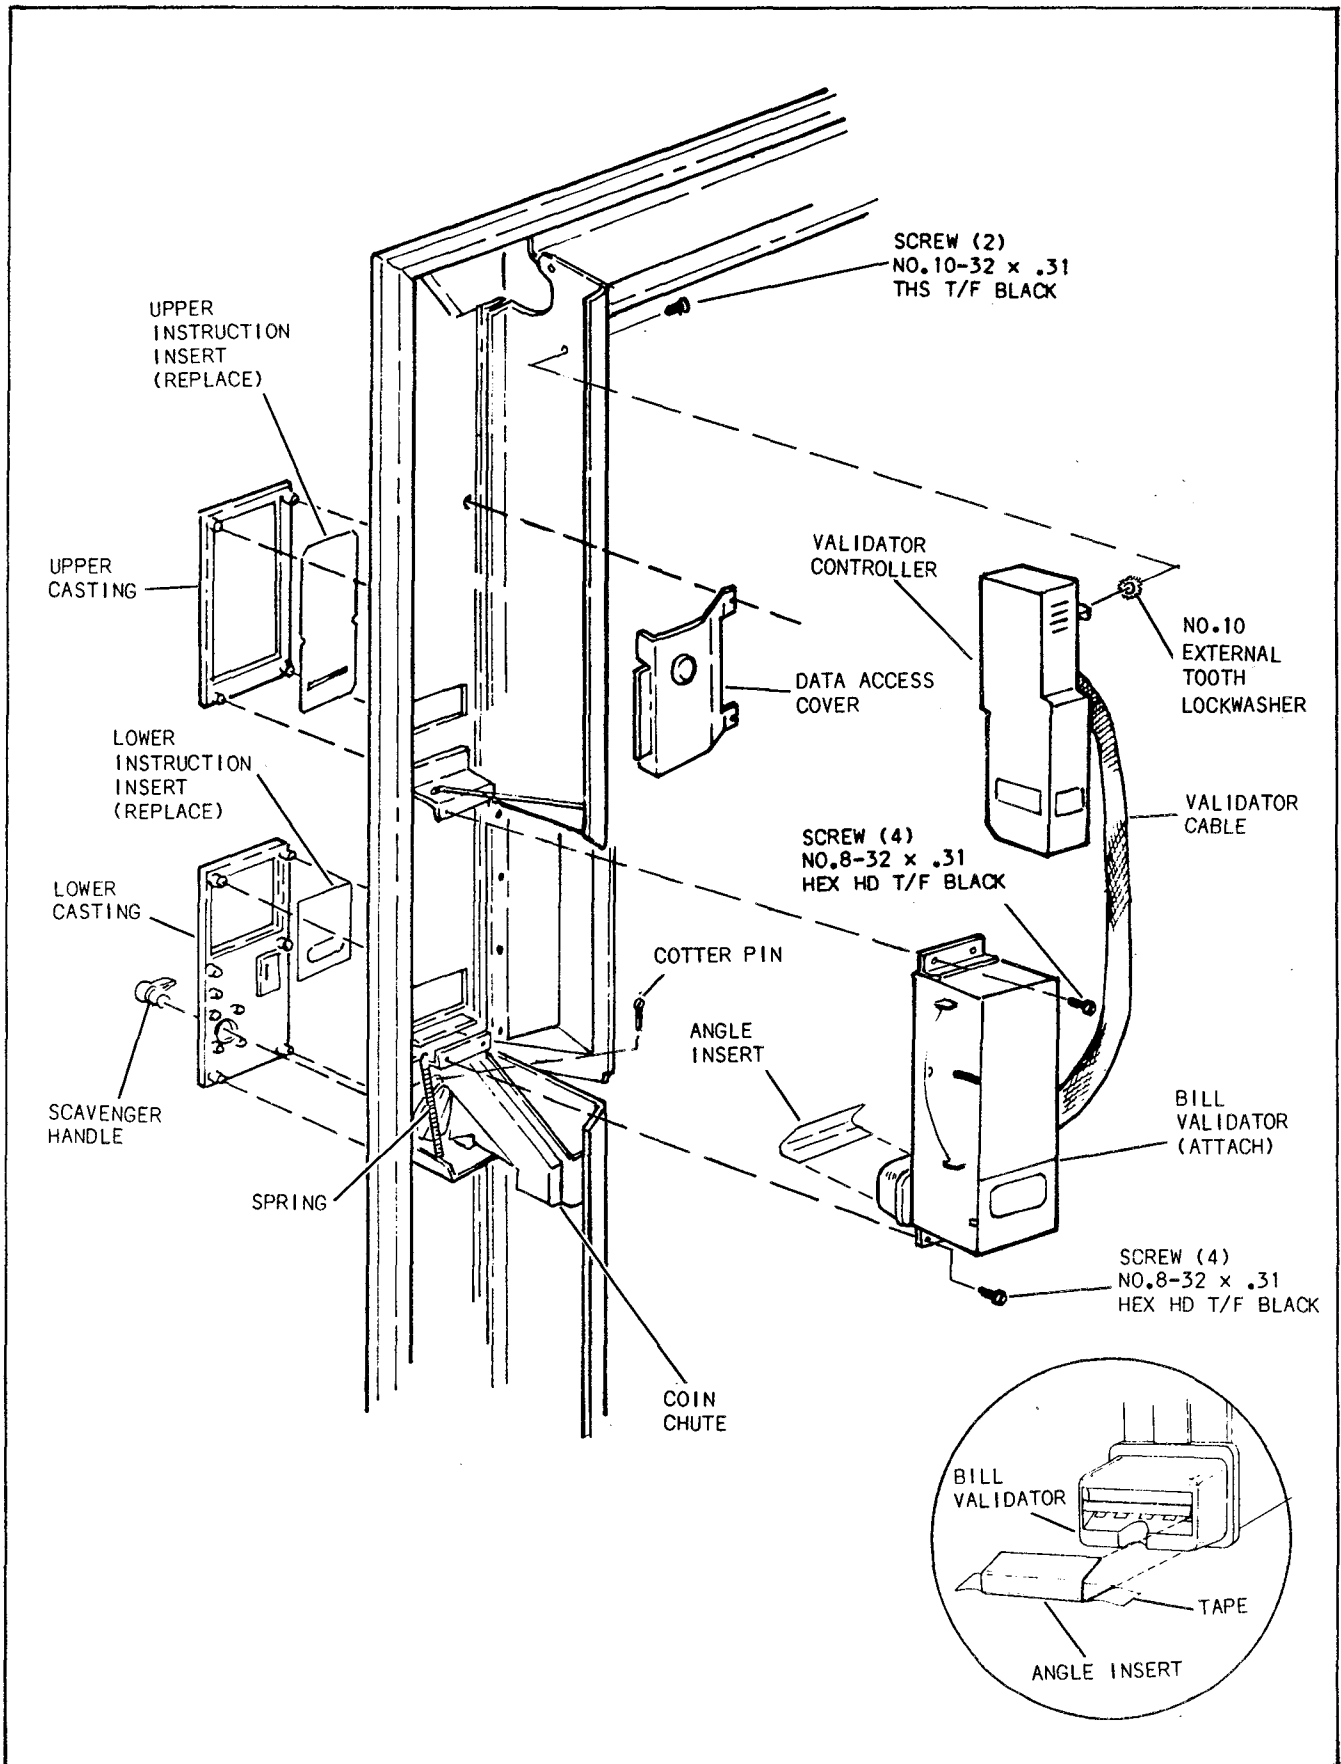

FIGURE 2
- A. Remove data access cover (see Figure 2).
- A. Tape angle insert (P/N 1452323) to bill validator (P/N 1452336) (See Figure 2).